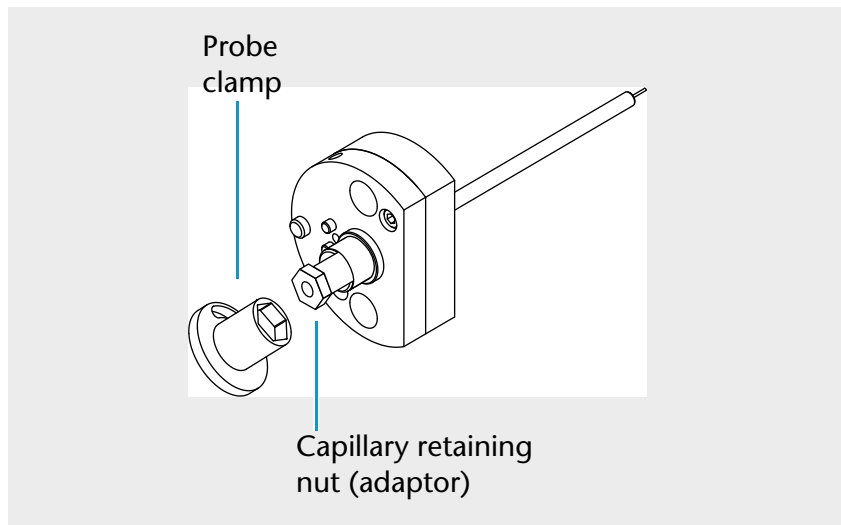

Fig. 36 Removing the capillary retaining nut (adaptor)
3. Using the front end of the probe clamp, unscrew the capillary retaining nut (adaptor) and remove it from the ESI probe. See Figure 36.